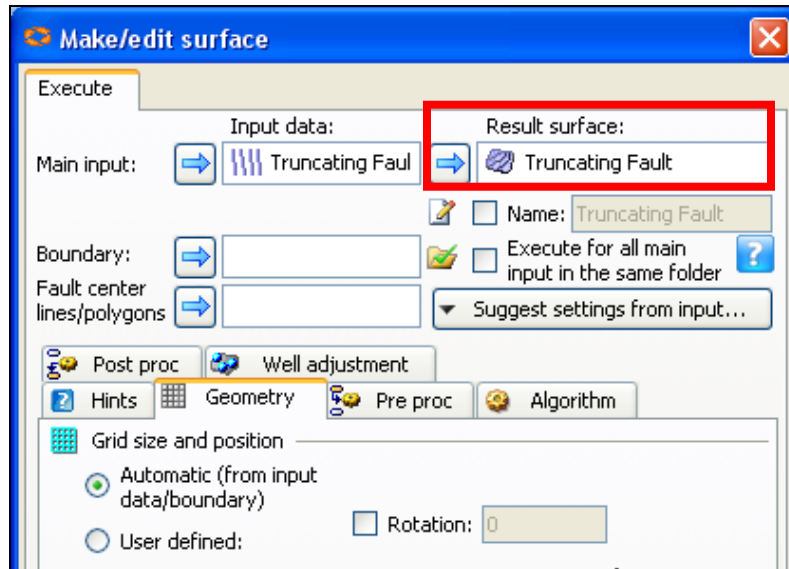

Fig.9.17: The Make/edit surface after adding the **Truncating fault sticks** for both Main input
3. Press **Apply**. A fault sticks surface will be created in Result surface as shown in Fig. 9.17.